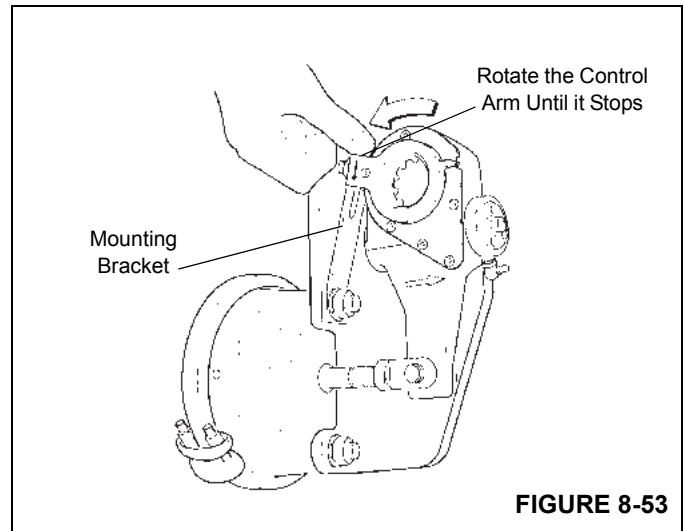

FIGURE 8-53
6. Rotate the control arm counterclockwise towards the air chamber until it comes to a definite internal stop. If necessary, use a plastic mallet to tap the control arm into position (see Figure 8-53).